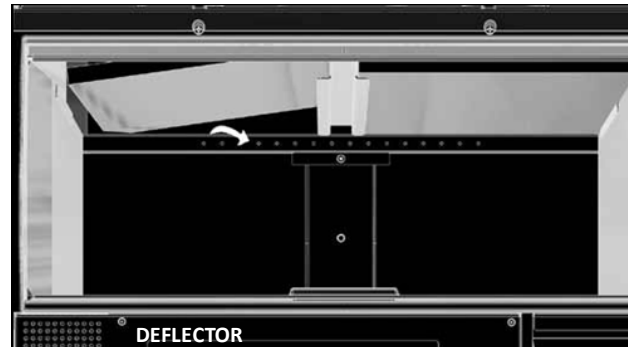

FIG. 7 - Nature 100
**Nature 100 Model:** Slide the deflector upwards along the central area as described in the figure, lift one side more than the other until it can be manoeuvred out of the two supports and removed from the fireplace. Pay attention to the vermiculite, it is very fragile (Fig. 7).